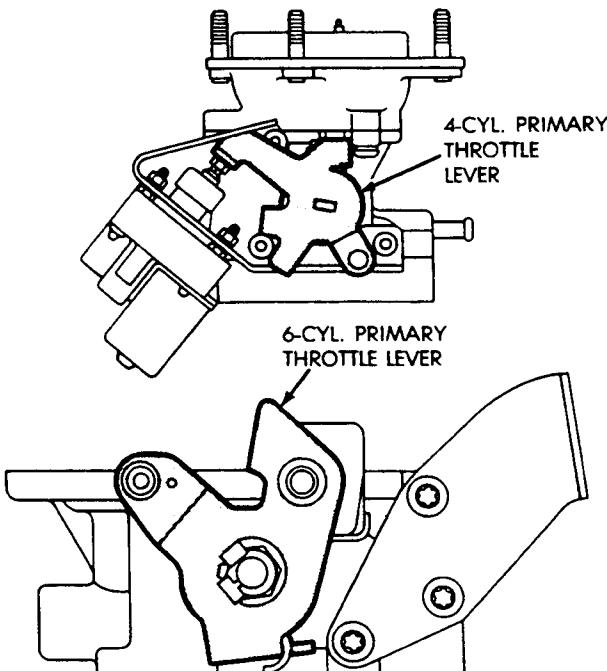

Fig. 30 Rotate Primary Throttle Lever To Wide Open Position
(3) Rotate primary throttle lever to wide open throttle position (Fig. 30).